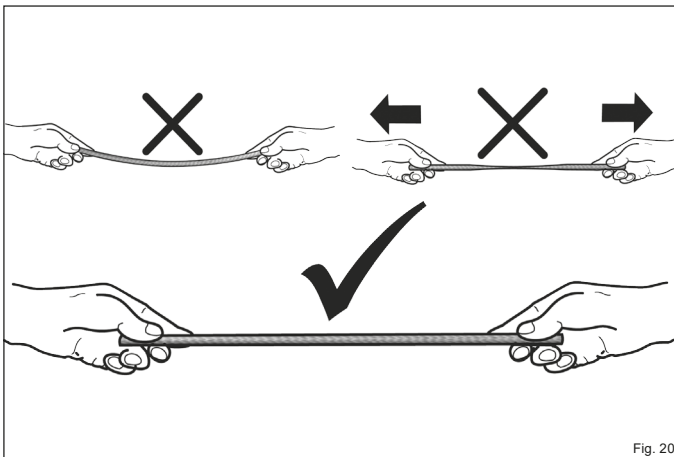

Fig. 20
- ▶ **When installing the seal, ensure it does not sag and is slightly compressed (Fig. 20).**